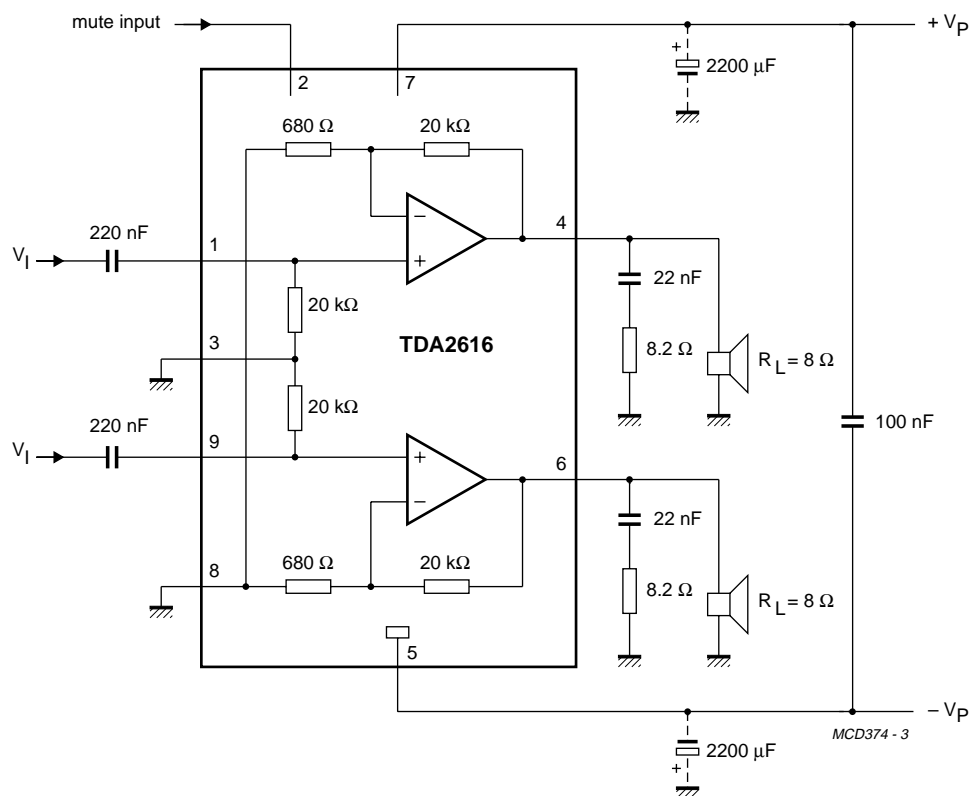

Fig.4 Test and application circuit with symmetrical power supply.
1.  $V_{\text{P}} = \pm 16 \text{ V}$ ;  $R_{\text{L}} = 8 \Omega$ ;  $T_{\text{amb}} = 25 \text{ }^\circ\text{C}$ ;  $f = 1 \text{ kHz}$ ; symmetrical power supply  $I_{\text{MUTE}} < 30 \mu\text{A}$ . See Fig.4
5.  $\pm V_{\text{P}} = 4 \text{ V}$ ;  $R_{\text{L}} = 8 \Omega$ ;  $T_{\text{amb}} = 25 \text{ }^\circ\text{C}$ ;  $f = 1 \text{ kHz}$ ; symmetrical power supply. See Fig.4